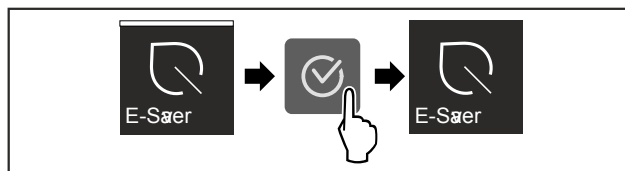

Fig. 16
- ▶ Complete the steps (see Fig. 16).